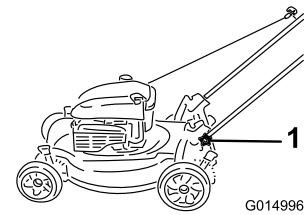

Figure 37
1. Loosen the handle knobs until you can move the handle freely (Figure 37).